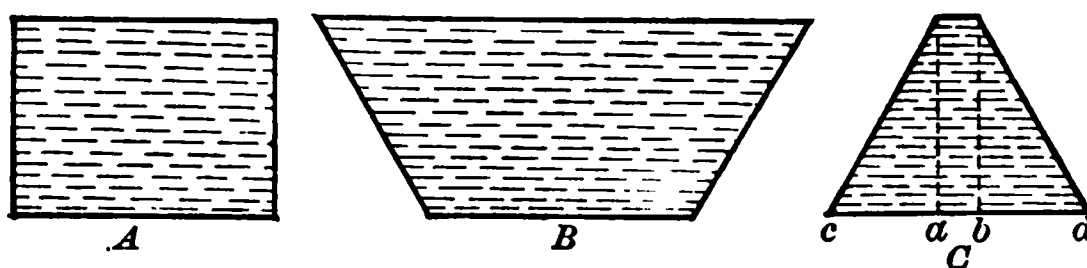
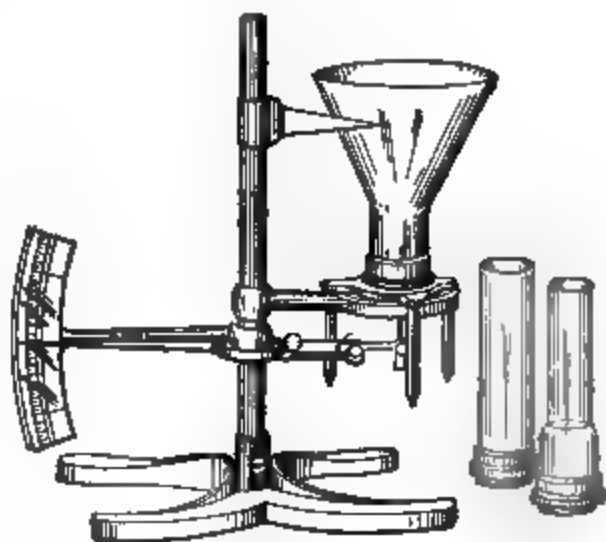

FIG. 50. — Vessels with (*A*) vertical, (*B*) flaring, and (*C*) conical sides.
FIG. 51. — Pascal's vases.
58. Bottom pressure and shape of vessel. So far we have considered vessels with vertical sides such as *A* in figure 50.
In the ordinary pail, however, the sides are not vertical, but flare outward as shown in *B* in figure 50. Perhaps one might expect that the pressure on each square centimeter of the bottom would be greater than in case *A*, because there is so much more water in the vessel. This, however, is not the case. Each square centimeter of the bottom has to hold
59. Experiments with Pascal's vases. The apparatus (Fig. 51) consists of three glass vessels of shapes to correspond roughly to *A*, *B*, and *C* in figure 50. The bottom of each vessel is made the same size and screws into a short cylinder, across the bottom of which is tied a disk of sheet rubber. The pointer below is a lever with its short arm pressing against the center of the rubber disk, and the long arm moves up and down across a scale.